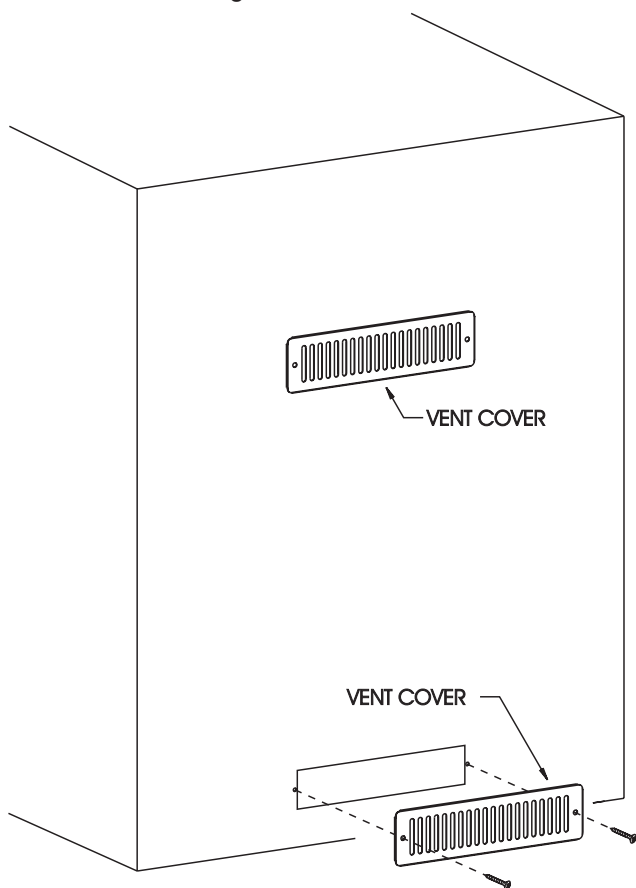

Figure 9
10. Install each of the four vent covers (BRB Vent Register Kit) into the Built-In Kit Enclosure using two #8 x 3/4" screws. See Figure 9.